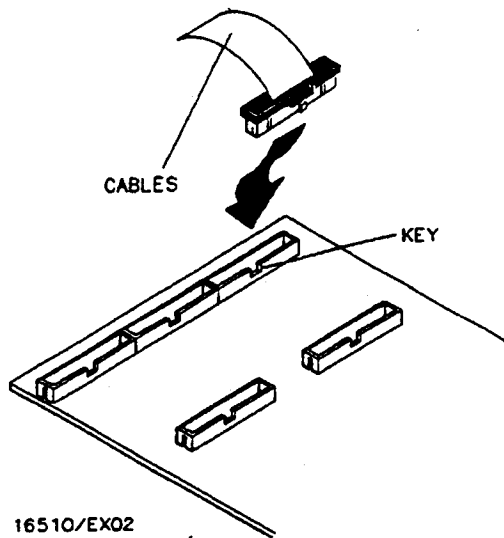

Figure 6-17. Card Connectors
- g. Remove cable(s) from card connector(s) and install new cable(s). See figure 6-17.